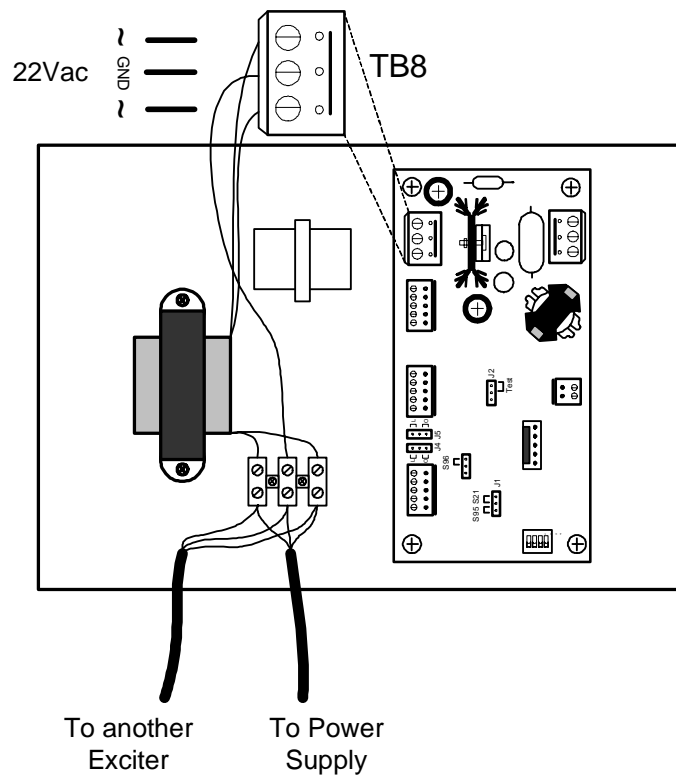

Figure 3-4: Multiple Exciters per Power Supply Connection.
For this installation an isolation transformer is not required. However, if it is installed, the equipment still can be used in a one Exciter per power supply configuration but it should be connected as if it is a part of the multiple Exciters per power supply configuration (see Figure 3-4).
To connect the power supply to the Exciter, refer to Figure 3-4.
3. Connect the power wires to the transformer input wires using terminal block as shown in Figure 3-4.
5. Connect the main ground connection to the TB8 pin marked with the ground symbol using the terminal block (see Figure 3-4).